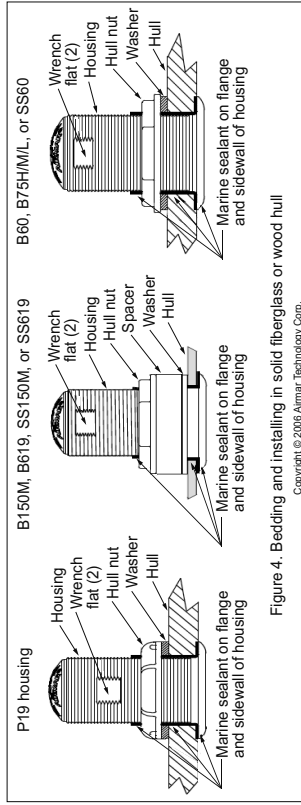

Figure 4. Bedding and installing in solid fiberglass or wood hull
- Slide the washer onto the housing (see Figure 4 or 5).